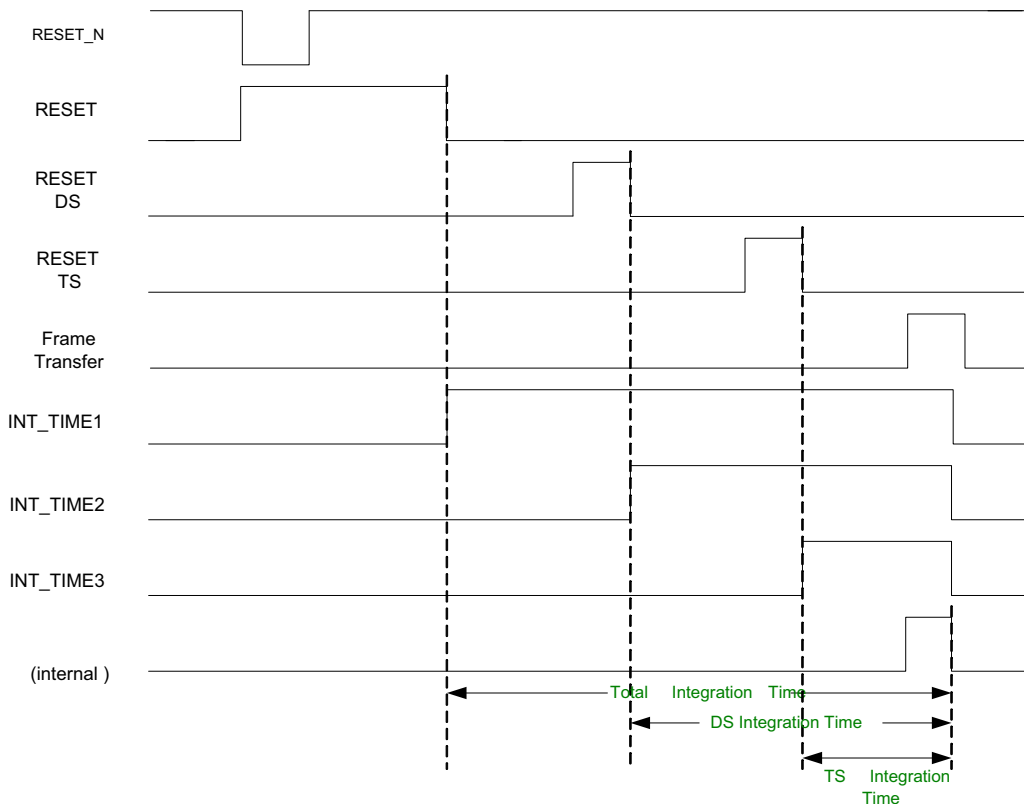

**Figure 15. Integration Timing in Master Mode**
In mastermode the integration time, the dual slope (DS) integration time, and triple slope (TS) integration time are set by the SPI settings. Figure 15 shows the integration timing and the relationship with the SPI registers. The timing concerning integration is expressed in number of lines read out. The timing is controlled by four SPI registers which need to be uploaded with the desired number of lines. This number is then compared with the line counter that keeps track of the number of lines that is read out.
The length of the integration time, the DS integration time and the TS integration time are indicated by 3 output pins: **INT\_TIME\_1**, **INT\_TIME\_2** and **INT\_TIME\_3**. These outputs are high during the actual integration time. This is from the falling edge of the corresponding reset pulse to the falling edge of the internal pixel sample. Figure 16 illustrates this. The internal pixel sample rises at the moment defined by **FT\_TIMER** (see Figure 15) and the length of the pulse is  $4 * (12 * (\text{GRAN} < 1:0 > + 1) + 2)$ .